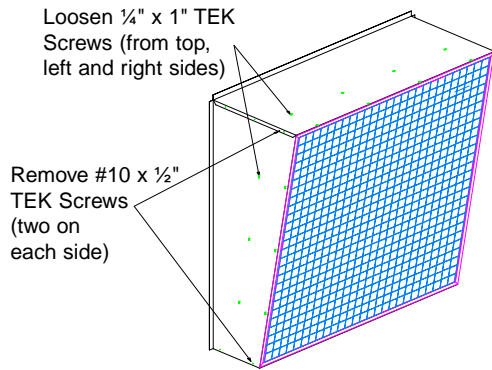

Figure 2
- 2) Remove shutter and the four #10 x 1/2" TEK screws shown in **Figure 2**. Save these screws.
- 3) Loosen, but do not remove, the 1/4" x 1" TEK screws located on the top, left and right sides of the housing. **See Figure 2.**